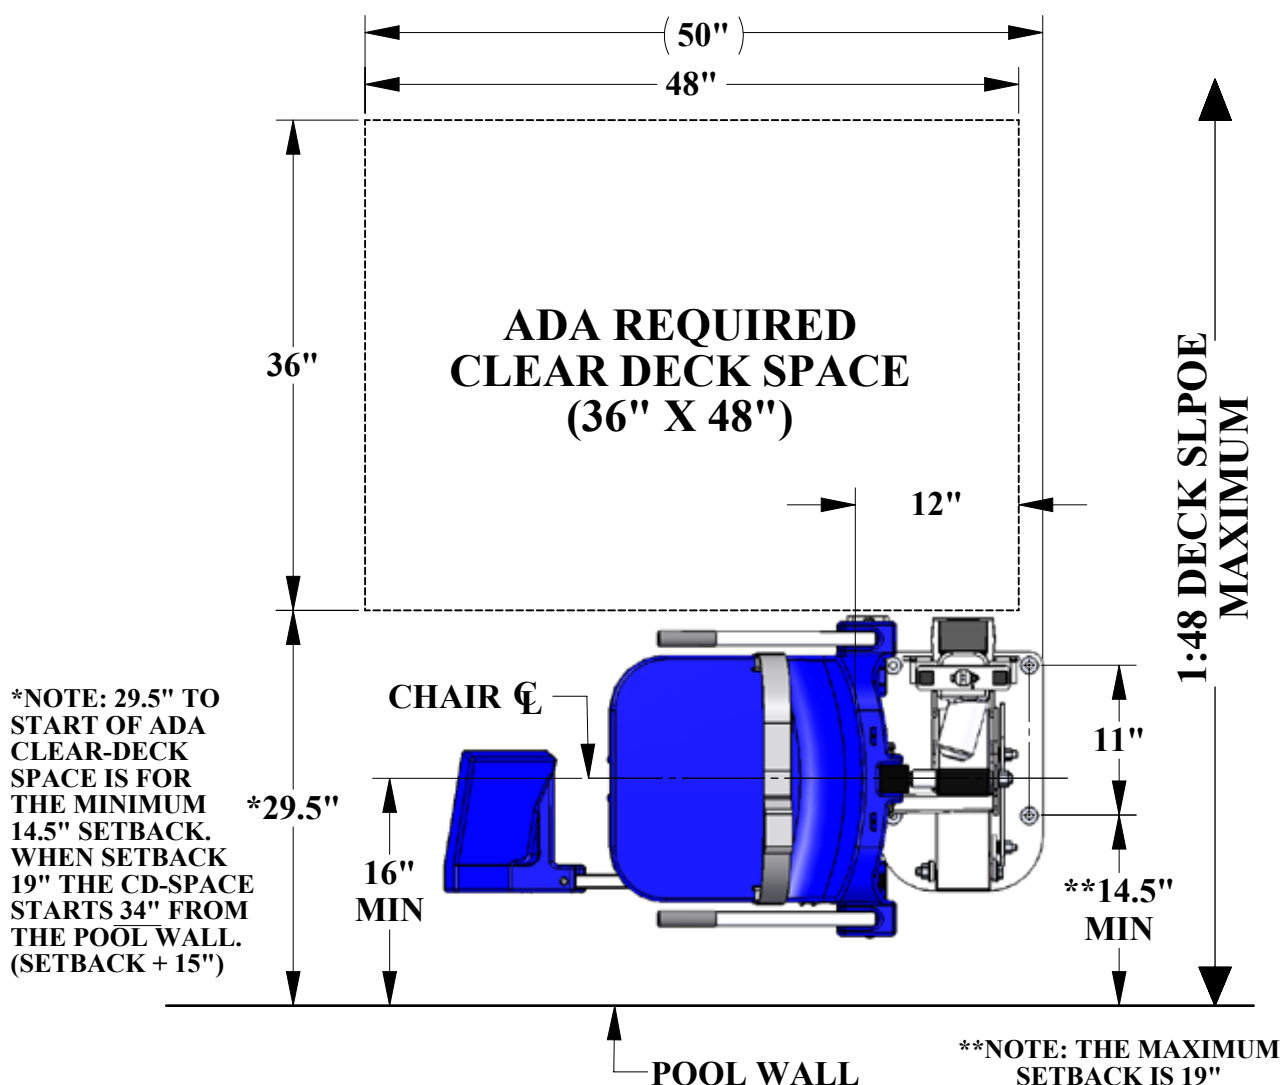

FIGURE 1
- Clear Deck Space Dimensions (see FIGURE 1)